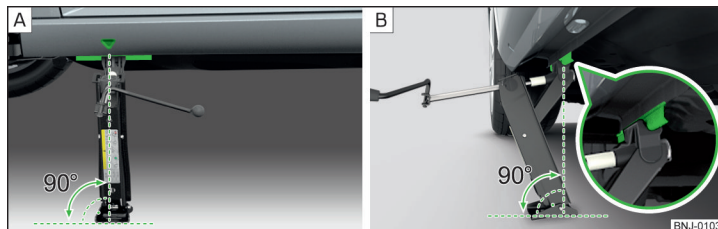

Fig. 276 Attach lifting jack
- Position the base plate of the jack with its full area resting on level ground and ensure that the jack will fit in the jacking point when raised » Fig. 276 - [A].
- Use the crank to raise the jack until its pawl covers the jacking point » Fig. 276- [B].